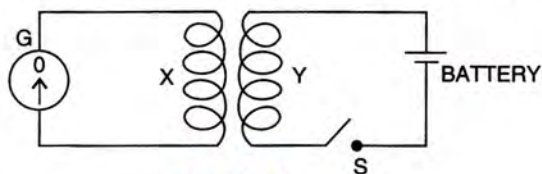

Fig. 10.45
17. The diagram in Fig. 10.45 shows a coil X connected to a sensitive centre-zero galvanometer G and a coil Y connected to a battery through a switch S.